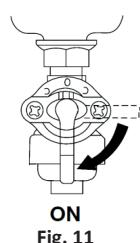

Fig. 11
1. Turn the fuel cock to the "ON" position. (Fig. 11)